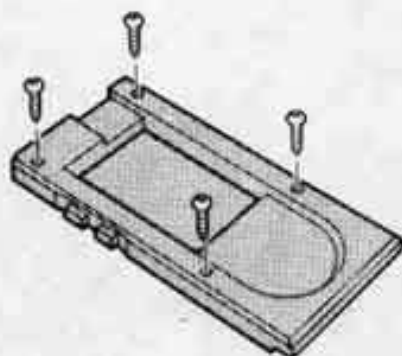

Figure 4-1
**a. Disassembly:** Turn the Hand Controller upside down on a flat surface and hold it firmly. Use a Phillips-head screw driver to remove the 4 screws. Remove bottom screws first. Set all 4 screws aside in a safe place. Refer to Figure 4-1 below.